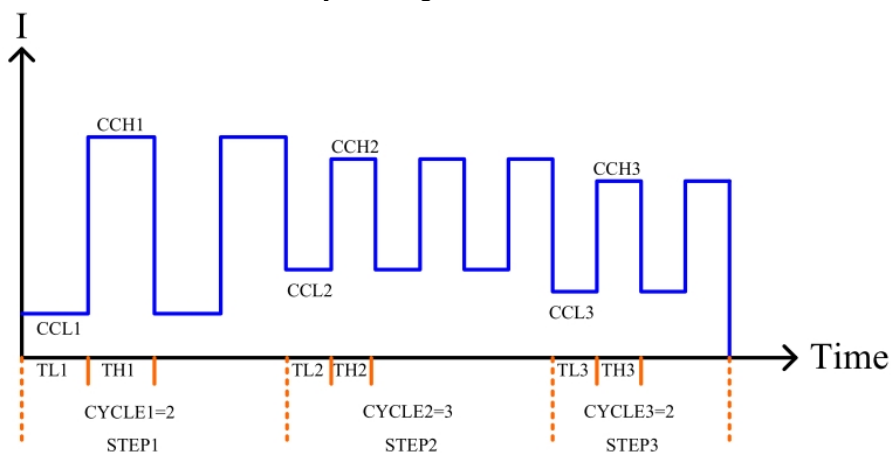

Fig 5-15 TYPE 4 Battery Discharge Figure
When testing loads on of Constant current (CC) mode, When battery voltage is less than UVP (under voltage protect) setting values, The LED is off to indicate Load off status, and displays the total discharge stored energy of the AH as fig 5-15 shows.